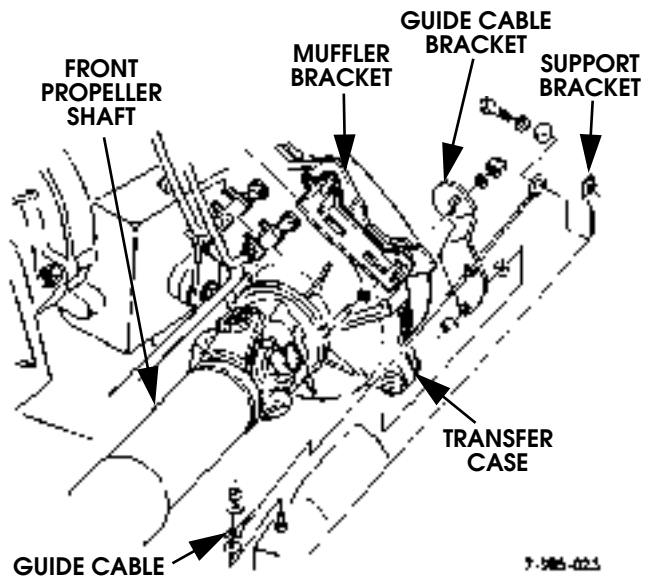

Figure 5-75: Guide Cable Attachment
1. Remove bolts, nuts, and washers attaching cable bracket to muffler bracket (Figure 5-75).